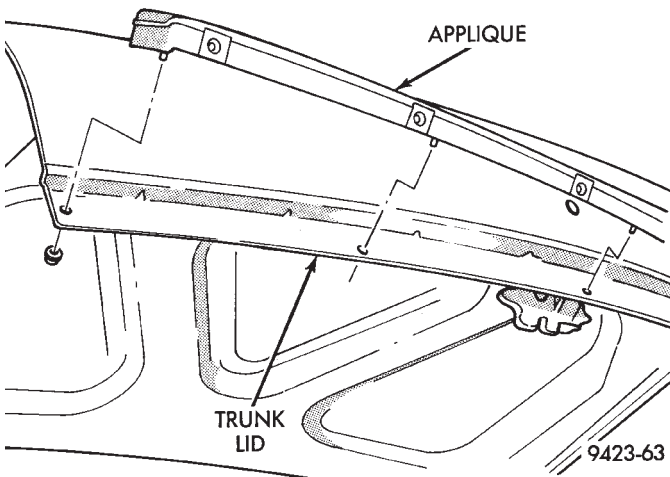

Fig. 7 Trunk Lid Applique
- (1) Release trunk latch and open trunk lid.
- (2) Remove nuts holding applique to trunk lid (Fig. 7).
- (3) Separate applique from trunk lid.